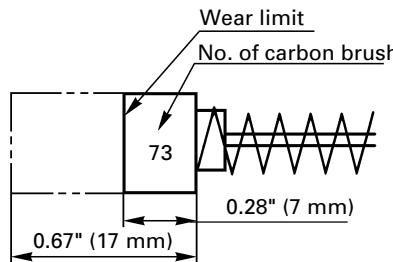

Fig. 19
## 4. Inspecting the carbon brushes: (Fig. 19)
**NOTE:** Use HITACHI carbon brush No.73 indicated in Fig. 19.